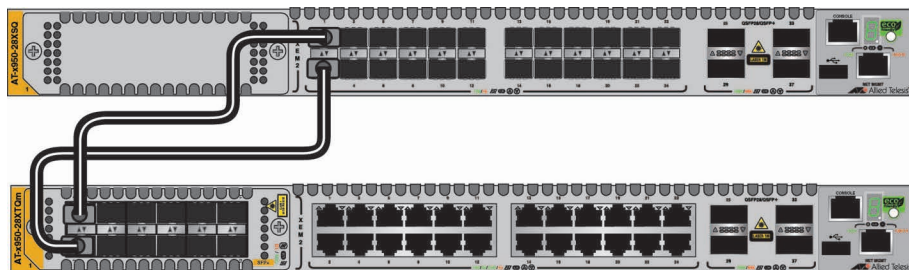

Figure 42. Unsupported Trunk of Connected Base and Line Card Ports
- ❑ Trunks cannot have links that interconnect base ports and XEM2 Line Card ports. The example trunk in Figure 42 is unsupported because base 10G ports 1 and 2 in the top switch are connected to ports 1 and 2 on the AT-XEM2-12XS Line Card in the bottom switch.